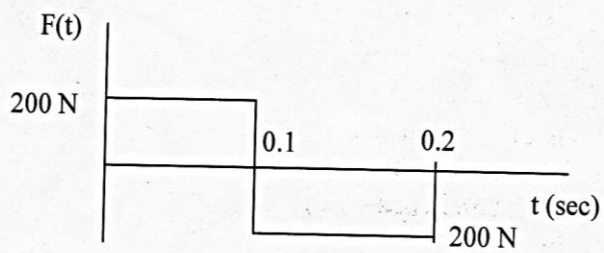

Fig.1
Q.4 (a) A single spring mass system has spring constant of 2000 N/m and mass of 20 kg. If it is loaded by a periodical load for which a single period is as shown in the Figure 1, derive the equation of the response using Fourier series. 07